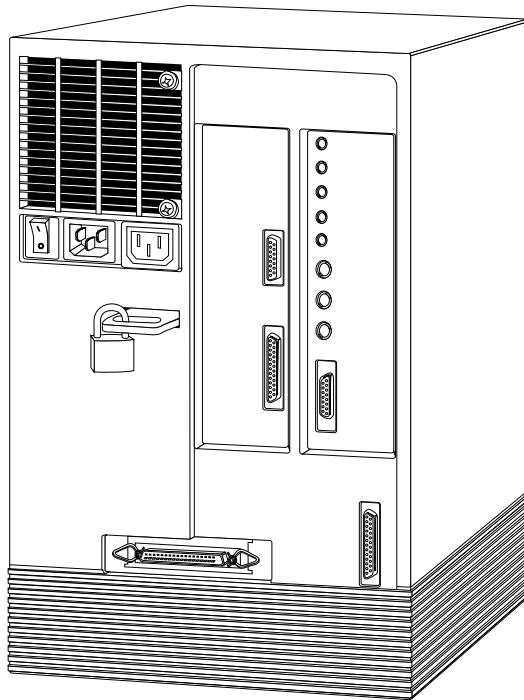

Figure 2-31 Locking the IRIS Indigo Workstation
- The lockbar passes through the back of the workstation, revealing a hole for a lock. You can then attach a lock and a locking cable to the other end of the lockbar, as shown in Figure 2-31.